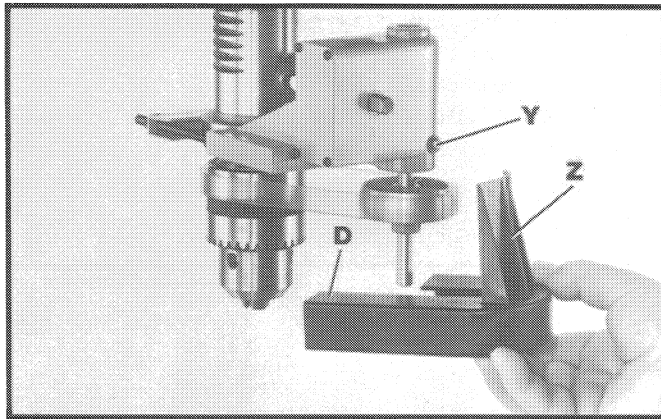

Fig. 16
14. Remove screw and washer (Y) Fig. 16, and assemble the belt and pulley guard (Z) Figs. 16 and 17, to the gear box. Replace screw and washer (Y). **IMPORTANT: IT MAY BE NECESSARY TO REMOVE A PORTION OF THE GUARD AT CORNER (D) ON SOME DRILL PRESSES TO INSURE PROPER CLEARANCE BETWEEN THE CHUCK AND GUARD.**